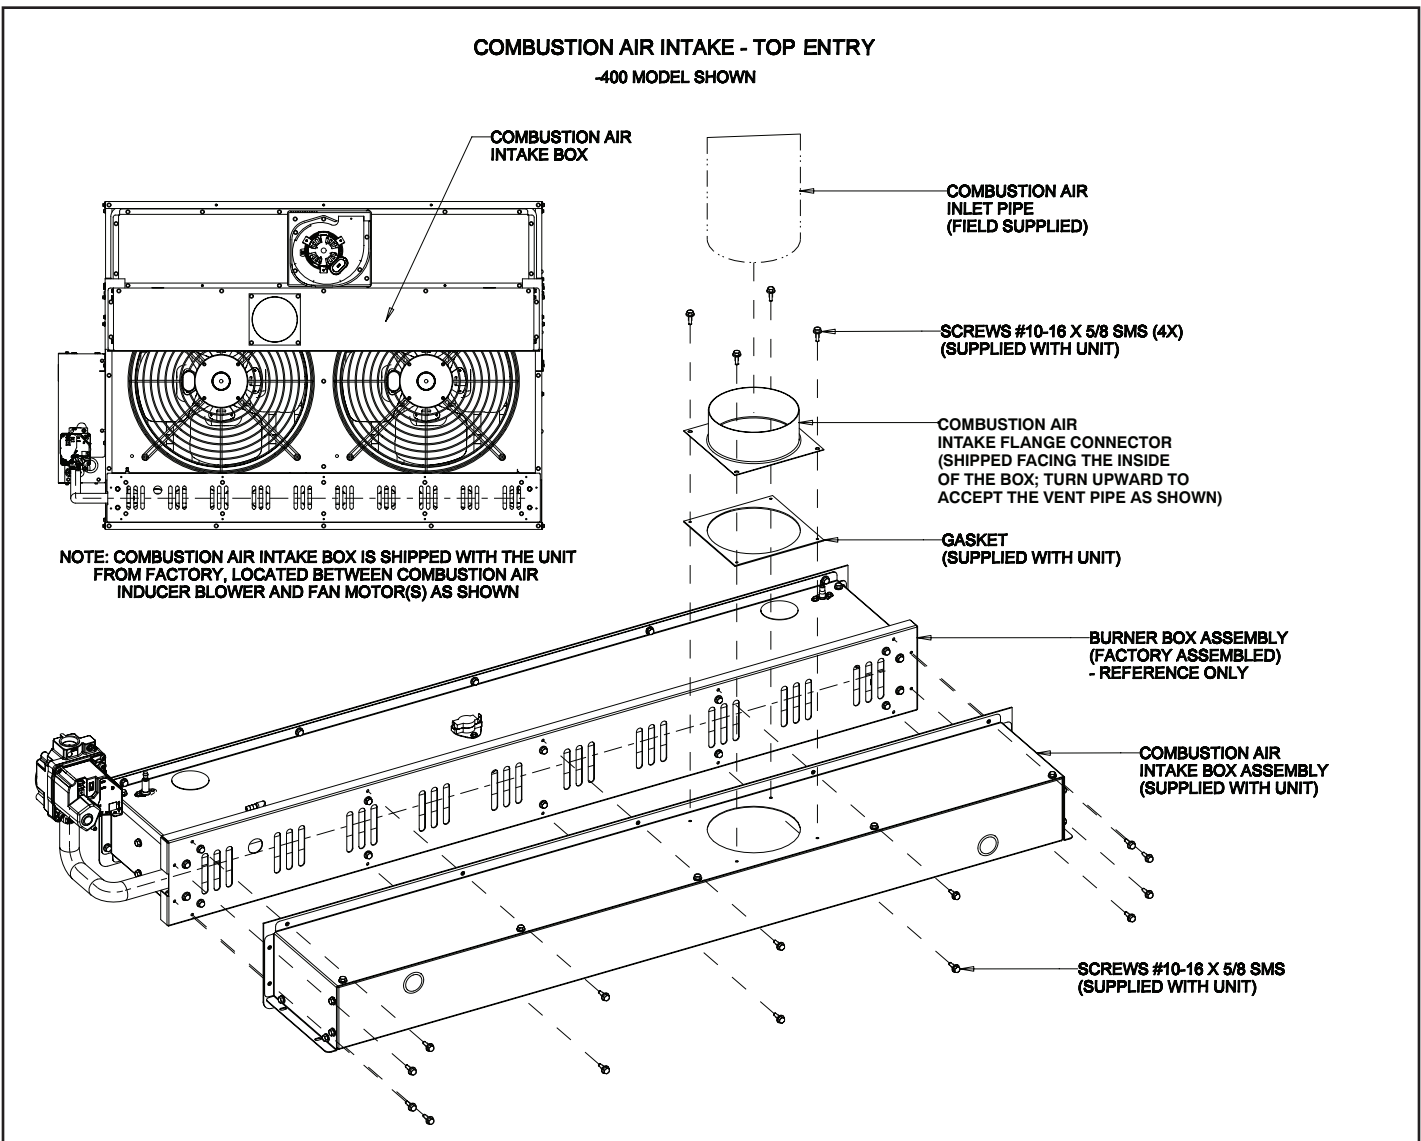
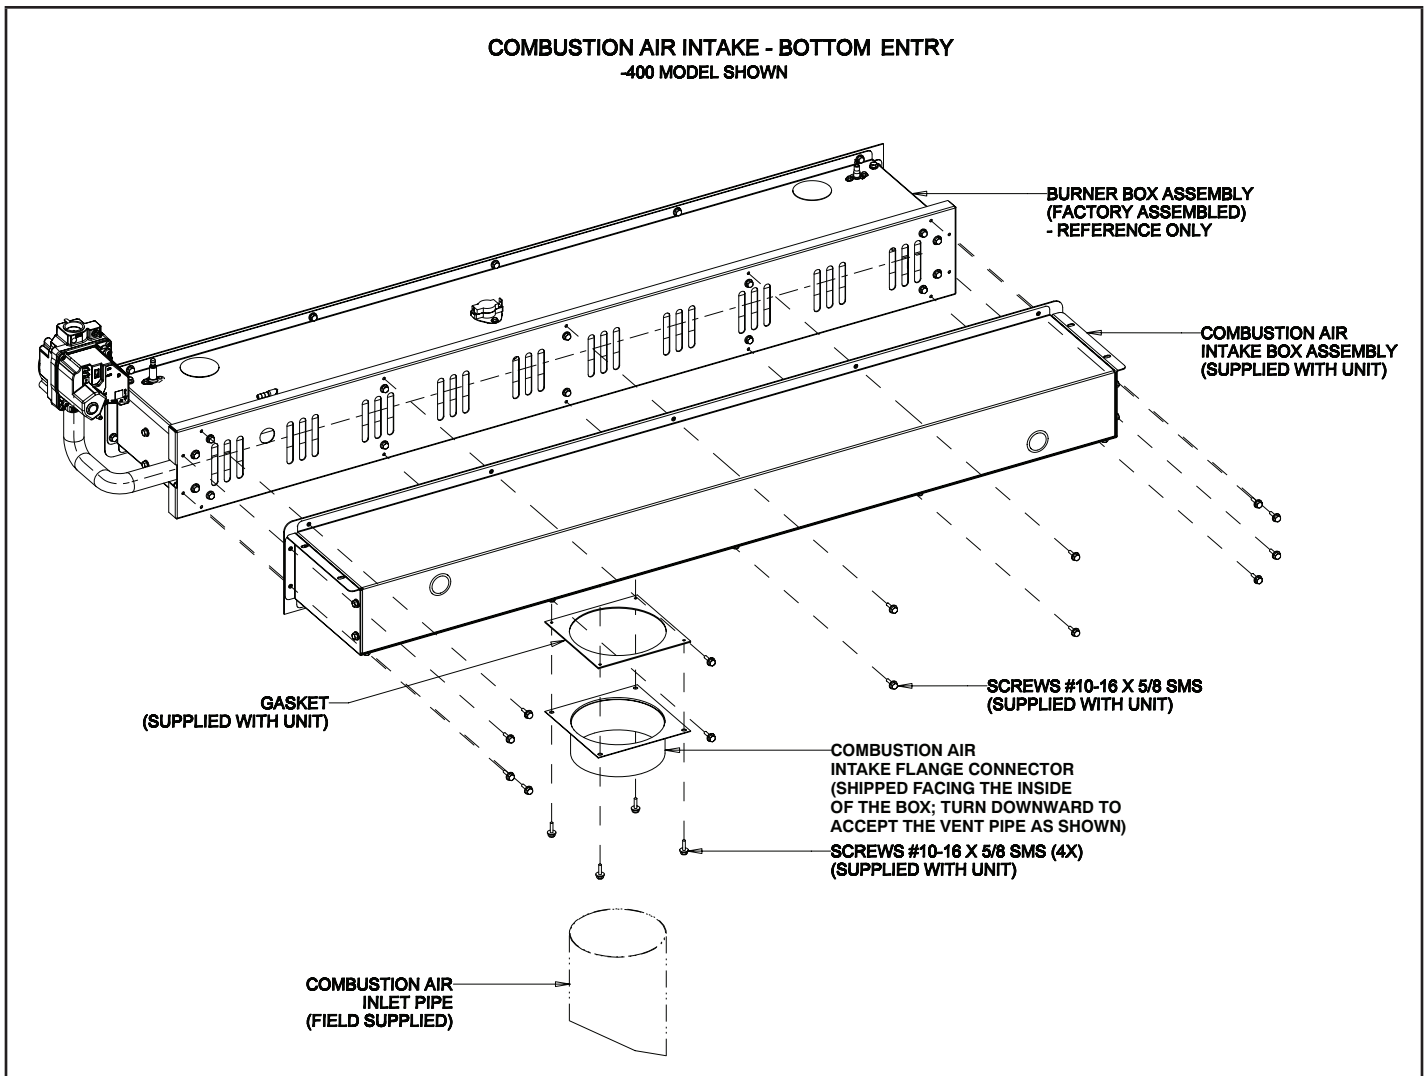

FIGURE 3
FIGURE 4
- 9 - Install the combustion air intake box. See figure 3 for top entry and figure 4 for bottom entry.